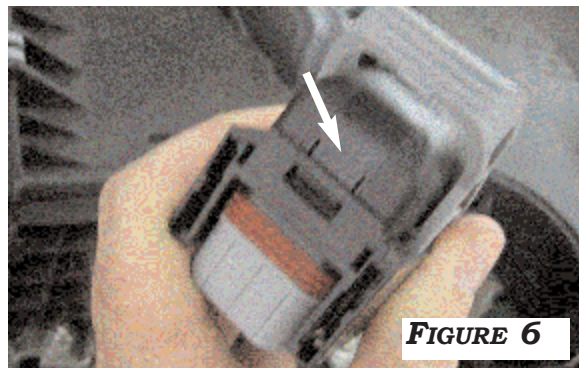
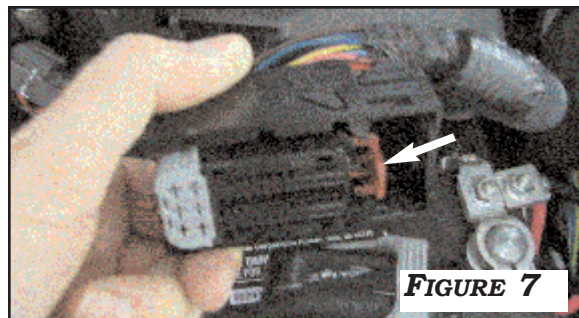

FIGURE 6
FIGURE 7
8. PRESS IN TAB TO REMOVE TOP COVER OF CONNECTOR TO ACCESS PIN LOCATIONS. **FIGURE 6.** THEN RELEASE CENTER SLOT CLIP AS SHOWN IN **FIGURE 7.**